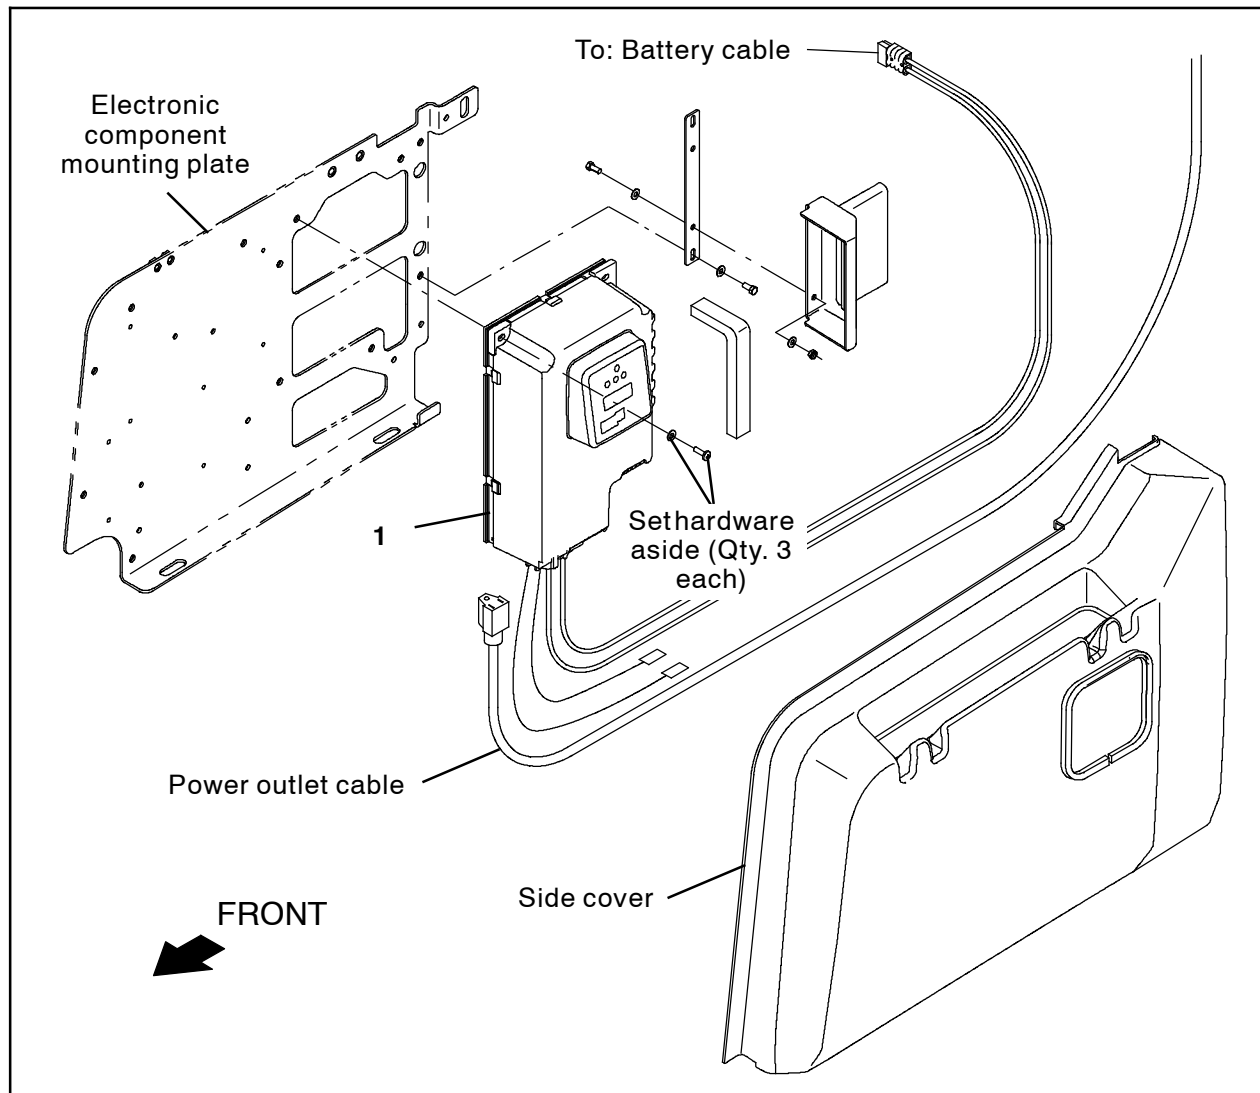
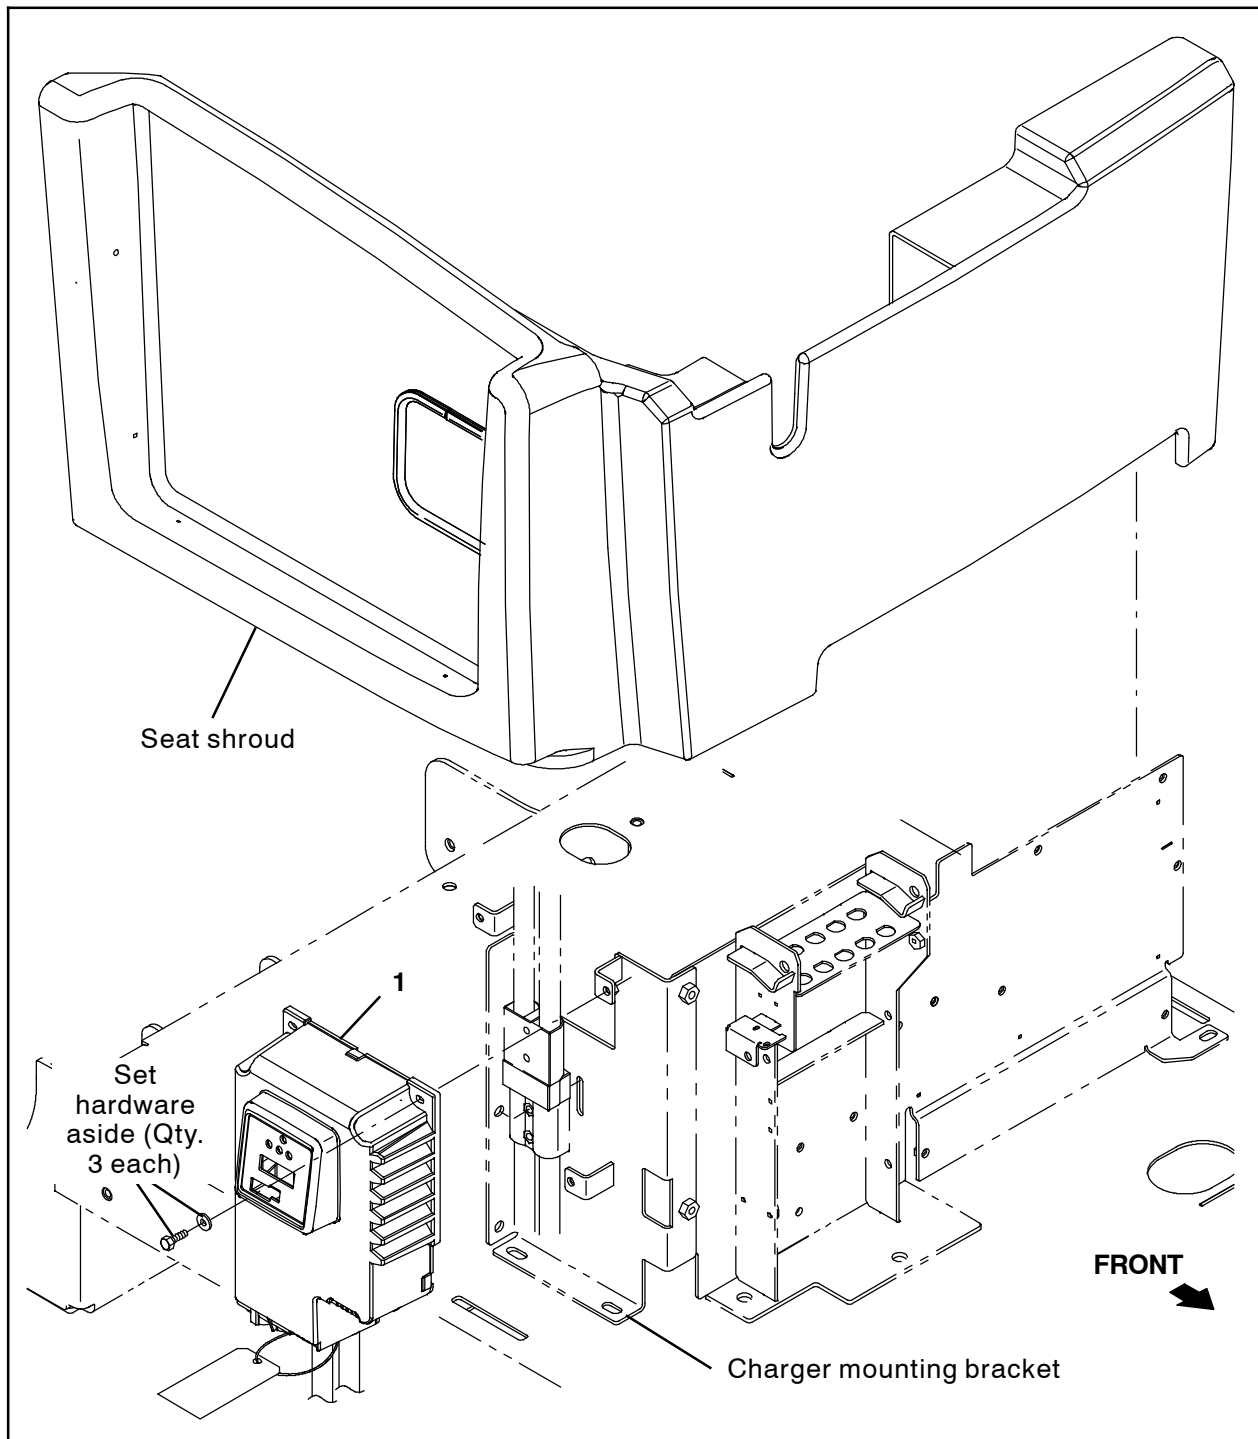

FIG. 1 - T12
FIG. 2 - T16
5. **T12 Only:** Remove the SEMS M8 hex screw securing the side cover to the solution tank and remove the side cover from the machine. Set the SEMS M8 hex screw and side cover aside. (Fig. 1)
T16 Only: Remove the seat shroud from the machine. Set the seat shroud and hardware aside. (Fig. 2)
1. Disconnect the on-board battery charger connections from the machine. (Fig. 1/Fig. 2)
2. Disconnect the power outlet cable from the on-board battery charger. Set the power outlet cable aside. (Fig. 1/Fig. 2)
3. Remove the on-board battery charger from the machine. Set the hardware aside. Discard the on-board battery charger. (Fig. 1/Fig. 2)
4. Use saved hardware to install the new on-board battery charger (1) onto the machine. (Fig. 1/Fig. 2)
5. Connect the power outlet cable to the on-board battery charger (1). (Fig. 1/Fig. 2)
6. Connect the on-board battery charger (1) connections to the machine. (Fig. 1/Fig. 2)
7. Reinstall the side cover (T12)/seat shroud (T16) onto the machine. (Fig. 1/Fig. 2)